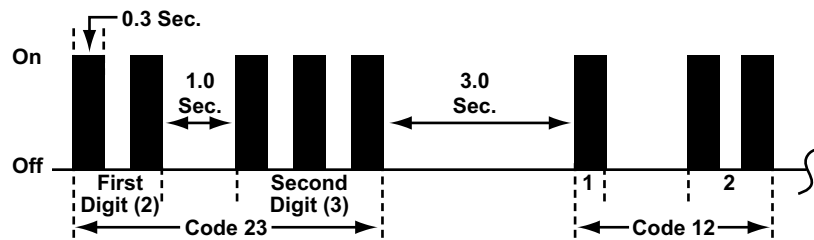

Figure 7-16 Transmission Code Type 01
- Type 01 transmission codes, see Figure 7-16 and Table 7-3